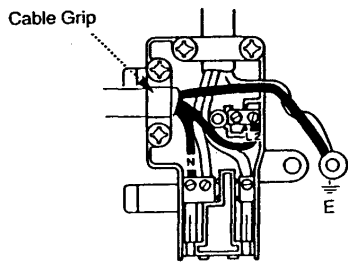

Fig. 24a
5. For Deluxe firefronts connect the permanent live supply L2 (Fig. 24a). Remove the side cable clamp and connect the wire from the firefront kit as indicated